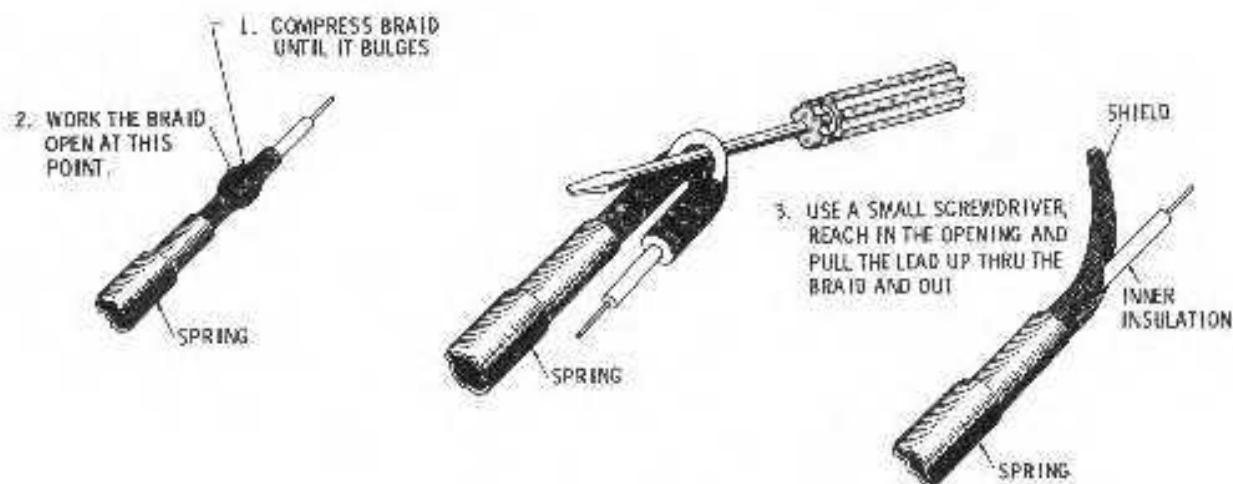

FIGURE 17
REFER TO FIGURE 17, 18, AND 19
- ( ) 100. Compress the shield until it bulges as shown in Fig 17. With a small screwdriver work open the braid, reach into the opening with the screwdriver and pull the inner conductor up through the shield opening and out.